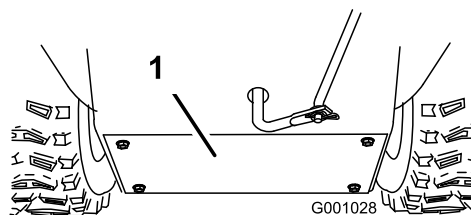

Figure 54
3. Remove the back cover (Figure 54).